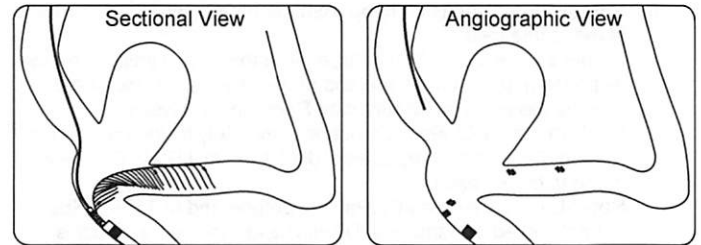

Figure 8
27. Advance the guidewire down the 2nd branch of the bifurcation as shown in Figure 8 below.